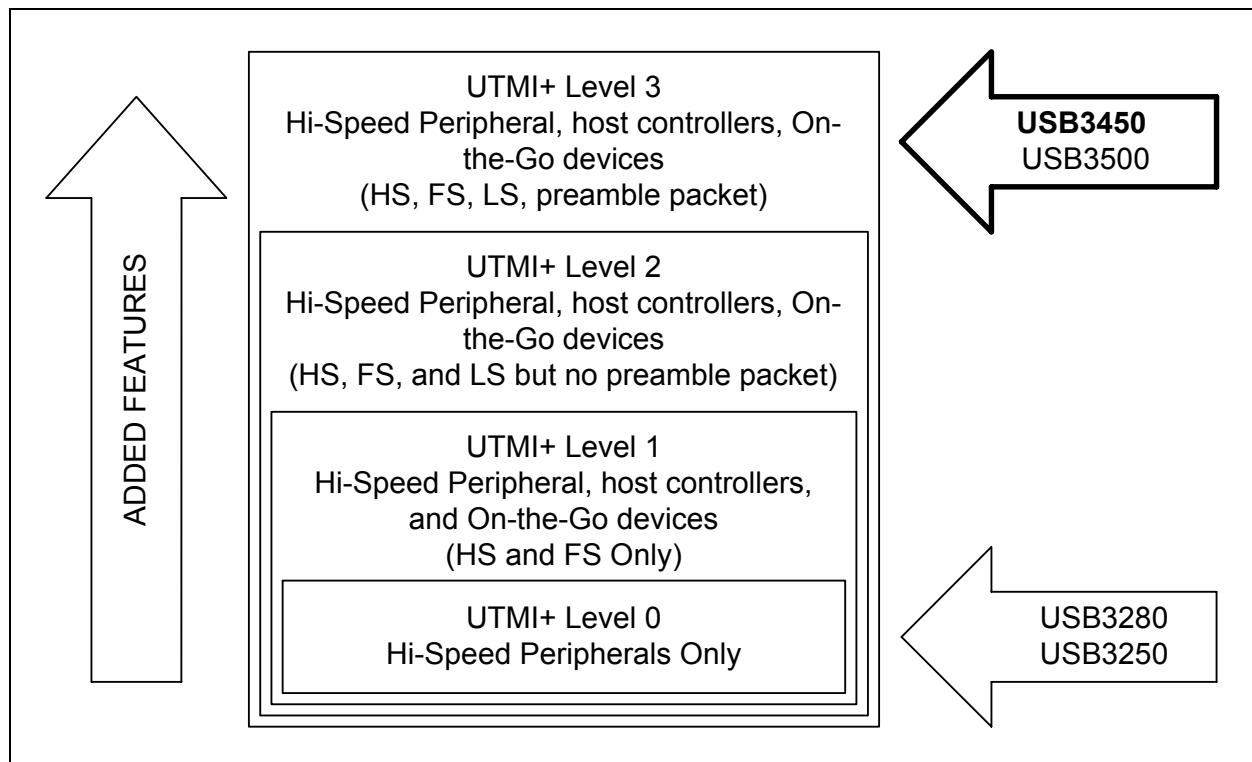

Figure 1.2 UTMI+ Level 3 Support
The USB3450 provides a fully compliant Hi-Speed interface, and supports Hi-Speed (HS), Full-Speed (FS), and Low-Speed (LS) USB. The USB3450 supports all levels of the UTMI+ specification as shown in Figure 1.2.